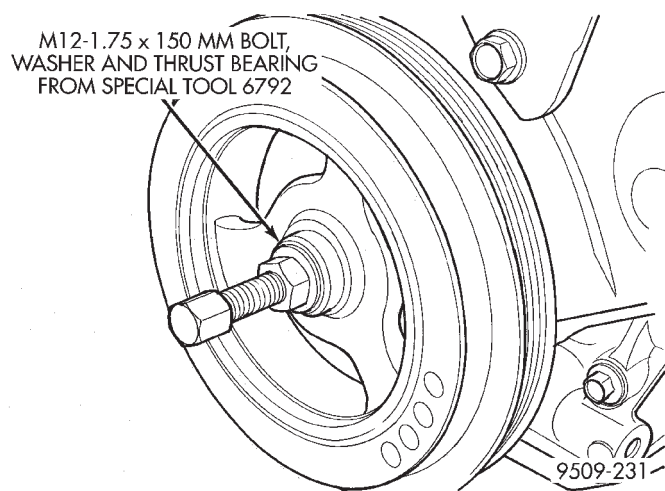

Fig. 39 Crankshaft Damper—Installation
(14) Install crankshaft damper using M12-1.75 x 150 mm bolt, washer, thrust bearing and nut from Special Tool 6792. Install crankshaft damper bolt and tighten to 142 N·m (105 ft. lbs.) (Fig. 39).
(15) Install accessory drive belts. Refer to Group 7, Cooling System Accessory Drive section for procedure.
(16) Perform camshaft and crankshaft timing relearn. Refer to Group 25, Emission Control Systems for procedure.
(8) Install front half of timing cover.
(9) Install engine mount bracket.
(10) Install Right engine mount. Refer to procedure outlined in this section.
(11) Remove jack from under engine.
(12) Install crankshaft damper using M12-1.75 x 150 mm bolt, washer, thrust bearing and nut from Special Tool 6792. Install crankshaft damper bolt and tighten to 142 N·m (105 ft. lbs.) (Fig. 39).